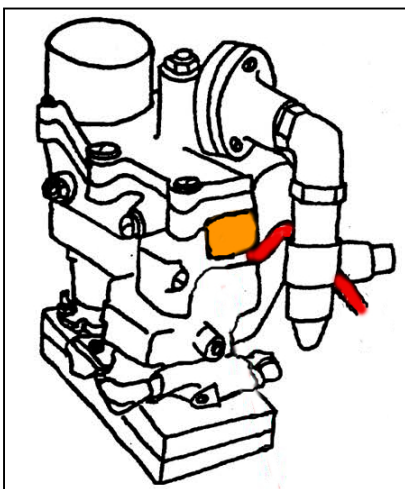

Figure 1- Install on a Woodard FCU
1. Verify installation location. See Figure 1 thru 3. Direction of element lead follows fuel inlet or oil line but is determined by installation type and cable routing.